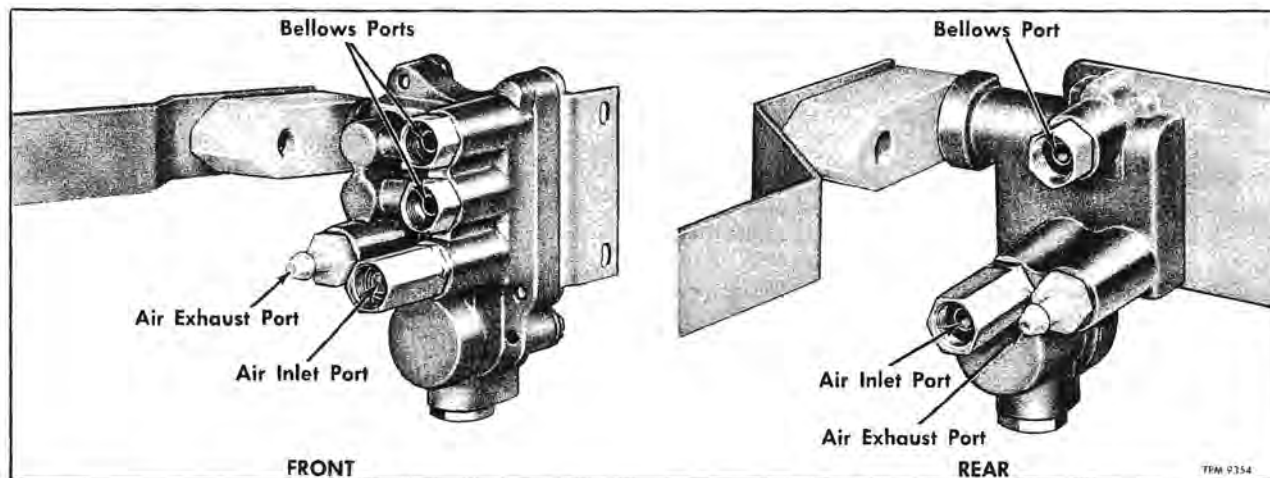

Figure 27—Identification of Valve Air Ports
2. Connect air pressure line to air inlet port (fig. 27), then open the air pressure (80-110) psi).
5. Remove air pressure line from air inlet fitting and connect it to the bellows port (fig. 27). If bubbles appear at the air inlet check valve port, this is an indication that check valve unit is defective and must be replaced.
6. If bubbles appear at the exhaust port (fig. 27), it is an indication that the exhaust valve assembly is defective and must be replaced.
- If vacuum source is available, attach supply hose to valve exhaust port (fig. 27) using Sun Tester fitting #115-3 or equivalent. Do not apply vacuum at this time.
- Attach air pressure supply hose to air inlet port (fig. 27). Do not apply pressure at this time.
1. Connect air supply hose (80 to 110 psi) to air inlet port (fig. 27).
1. Connect air pressure supply hose to valve air inlet port (fig. 27).
ting, disconnect air supply from the air inlet port and connect it to the bellows port (fig. 27).
- Connect vacuum hose to air exhaust port (fig. 27). Adjust vacuum to 15 inches.
- Connect air pressure supply hose to bellows port (fig. 27).